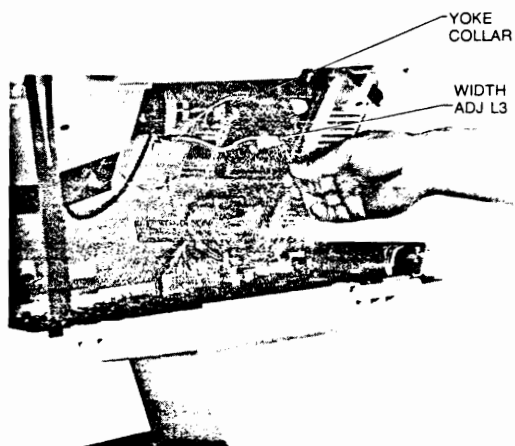

Figure 5-4. Location of Raster Width Adjustment and Yoke Collar
7. Use the alignment tool to adjust the width adjustment on the Sweep PCA (figure 5-4) to expand or contract the display in the horizontal dimension.
8. To adjust a tilted display, the yoke assembly must be rotated on the CRT neck by its plastic donut-shaped body, but first the yoke collar screw (figure 5-4) must be loosened. After the adjustment has been made, retighten the yoke collar screw.